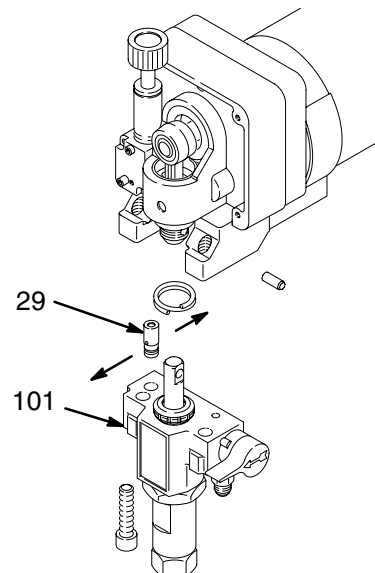

Fig. 25
NOTE: See Fig. 25 for this procedure.
2. Use a pull-twist motion to remove the transducer (29) from the pump manifold (101).
6. Align the holes in the transducer as shown by the arrows in Fig. 25.